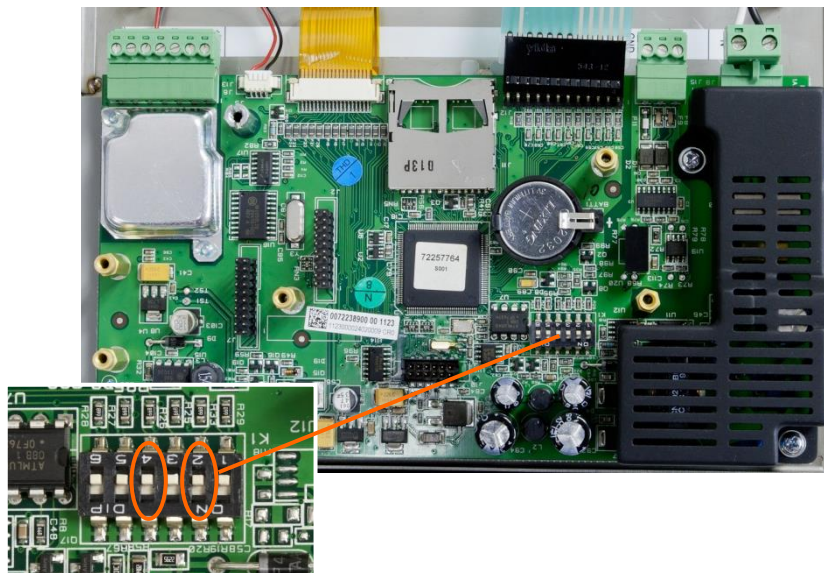

Figure 5-8: Switches SW1-2 and SW1-4
- 4 Figure 5-8.
- Figure 5-8) determines whether metrologically significant EEPROM data for scale calibration is reset when a master reset is performed. SW1-4 must be set to ON to reset EEPROM data. If SW1-4 is set to OFF, metrological EEPROM data will not be affected by the master reset and the original calibration will persist.